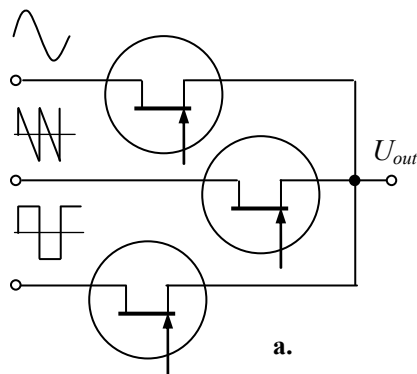

Fig. 2.44
**Multiplexer.** Fig. 2.44 shows a *multiplexer*, a multiple switch that steers one of the input signals to the output. Each JFET in Fig. 2.44,a acts like a single-pole single-throw switch, which can transmit data inputs by setting one of the address inputs. The circuit symbol in Fig. 2.44,b has data inputs  $D$ , address inputs  $A$ , and the blocking input  $E$ , which closes the output for a time of switching.